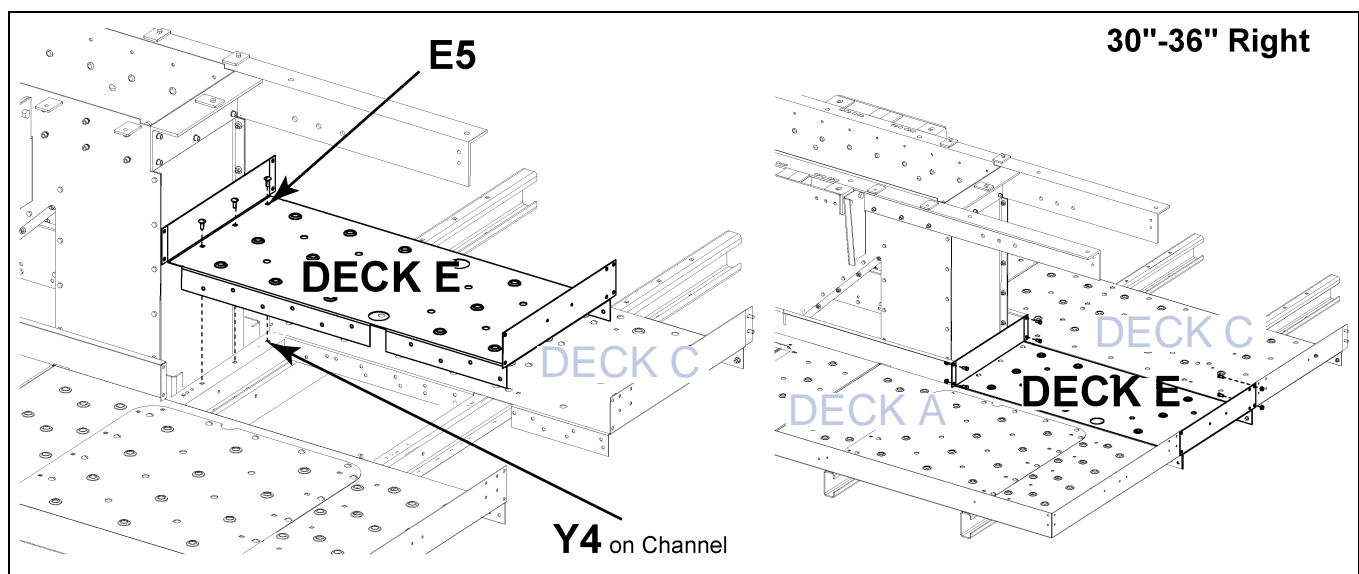

Figure 80
1. Place Deck E between Deck A and Deck C. (See Figure 80.)
4. Connect the Deck E kick plate flanges to toe boards and flanges of Deck A and Deck C using 3/8" x 3/4" bolts (S-7105) and 3/8" nuts (S-10028). (See Figure 80.)